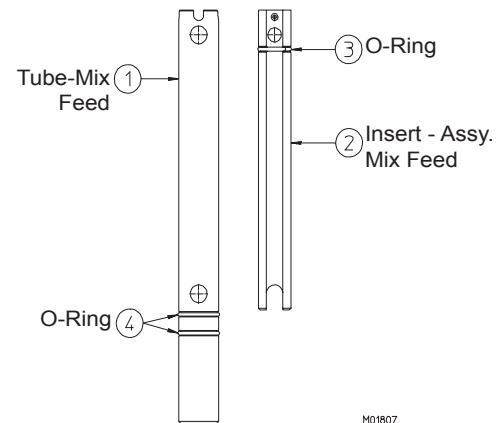

Figure 7-7
19. Install the five o-rings (7) on quick connect fittings (6) on the mix chamber. Lightly lubricate o-rings..
20. Push each syrup line quick connect (6) onto fitting of the mixing chamber (10).
21. See Figure 7-7. Install the o-ring (3) on the mix feed insert (2) and lubricate. Then install the o-rings (4) on the mix feed tube (1) lightly lubricate. Place the insert inside the mix feed tube.